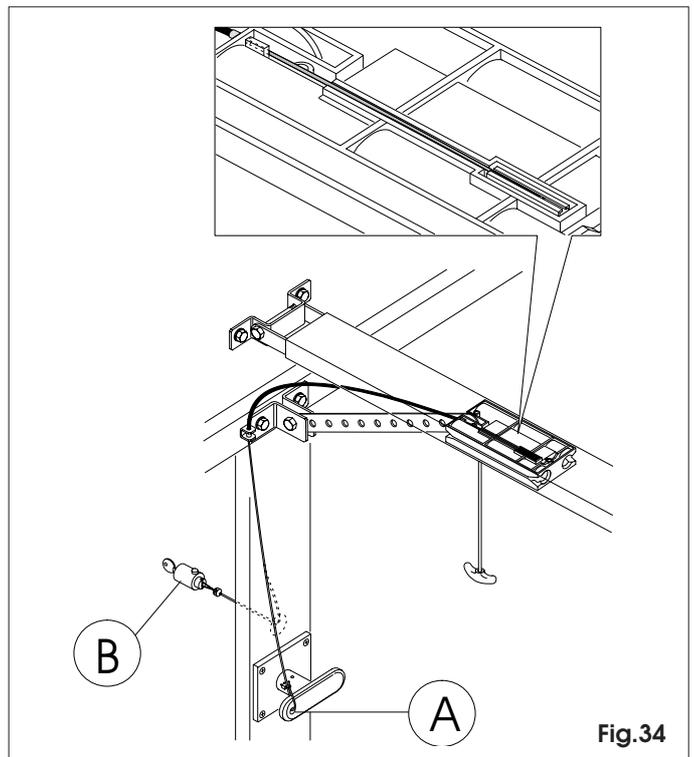

Fig.34
- with handle (fig.34 ref.A)
- with wrench (fig.34 ref.B)